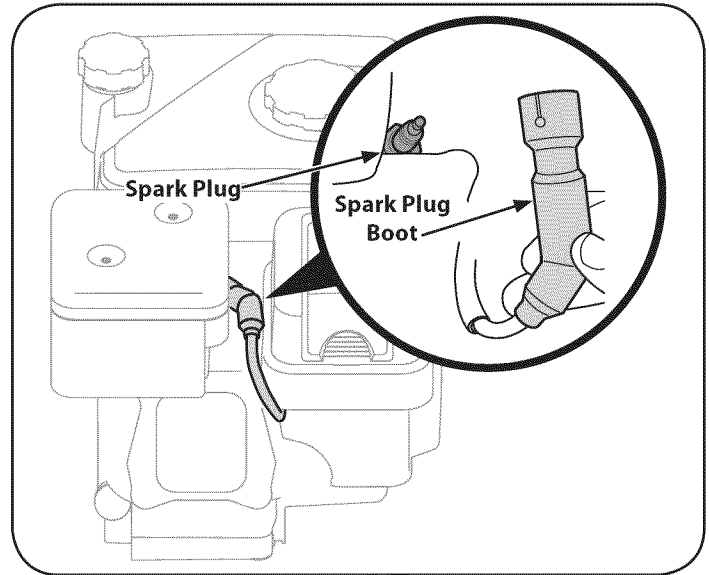

Figure 23
1. Remove the spark plug boot and use a spark plug wrench to remove the plug. See Figure 23.